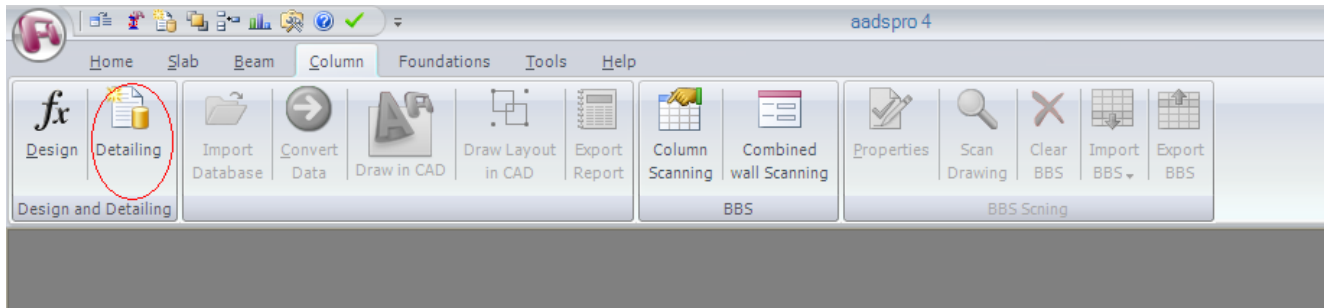

Fig 8.1.3
- Click on the 'Detailing' from tool bar (fig 8.1.3)